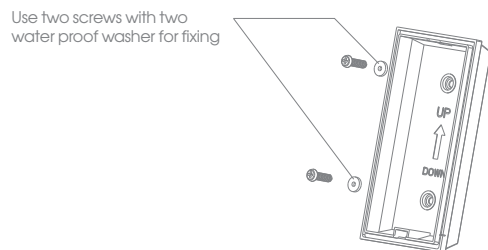

Fig. 3
- Then screw the wall bracket in your chosen location (Fig. 3). In case of "vertical" installation. Check the sealing ring is correctly located and locate the button on its wall bracket.